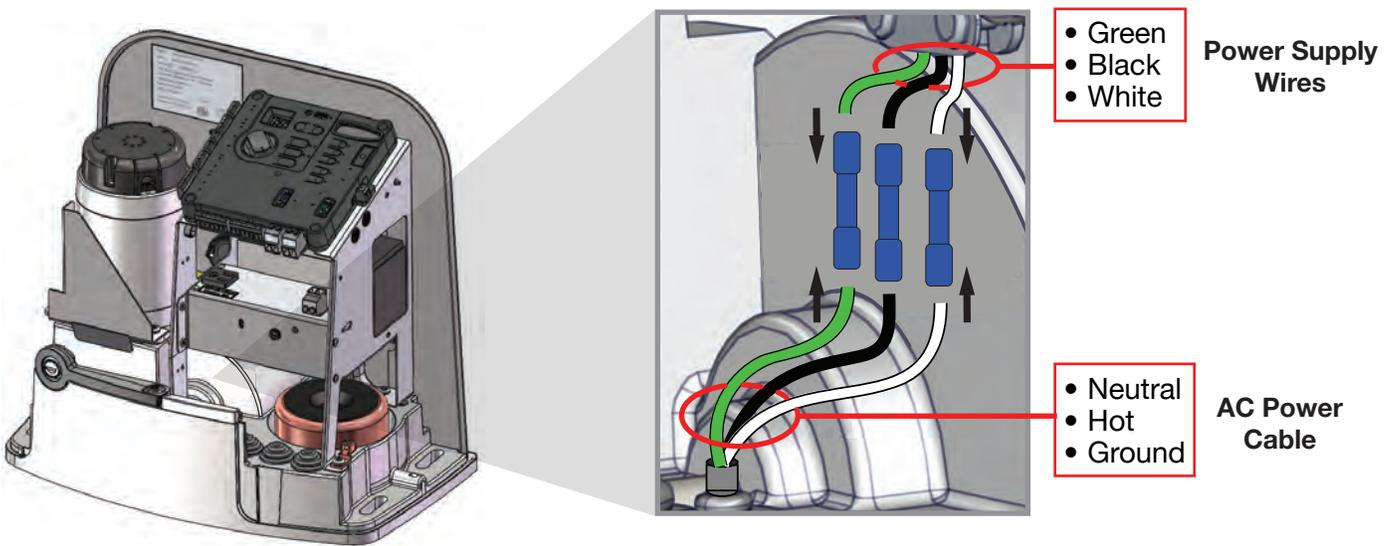

FIG. 6-1: AC Power Supply Wiring
4. Join the AC power wires using wire connectors (example in Fig 6-1), ensuring correct AC to power supply wire color: